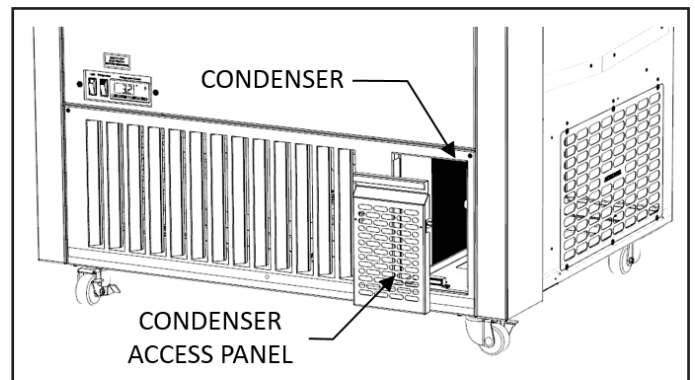

Figure 5 - Condenser cleaning - 900mm wide units
- (a) The Condenser is located on the rear (operator facing) side of the unit. See Figure 5.